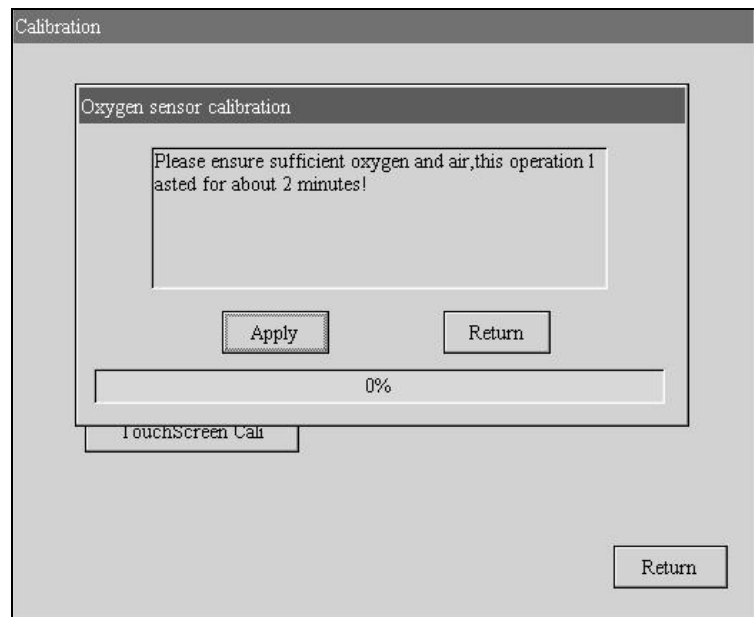

Figure 7-5 Calibrate oxygen sensor interface
- 1 Using a flat bladed screwdriver, lift open the cover. Using the same screwdriver, loosen and pull out the fuse holder as shown in figure 7-5.